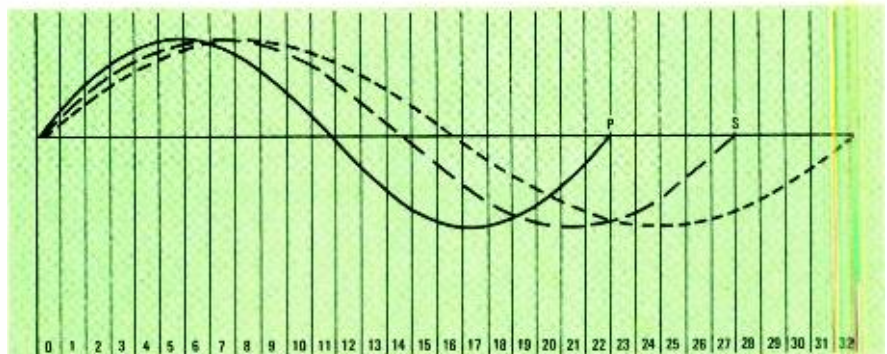

FIG. 1—BIORHYTHM CURVES combined on single graph. The colored version on the front cover should be attached to the clock for easy reference.
Biorhythm researchers claim to have statistically determined that, starting from birth, humans have built-in biological "clocks" that vary their physical, emotional and intellectual capacities during regular repeated cycles. Figure 1 shows these cycles. They are conventionally represented as sinewaves of varying lengths—a 23-day physical cycle (P), a 28-day emotional or sensitivity cycle (S) and a 33-day intellectual cycle (I). These cycle lengths apparently have been verified by independent researchers at different times and locations, and with different human subjects. The actual cycle